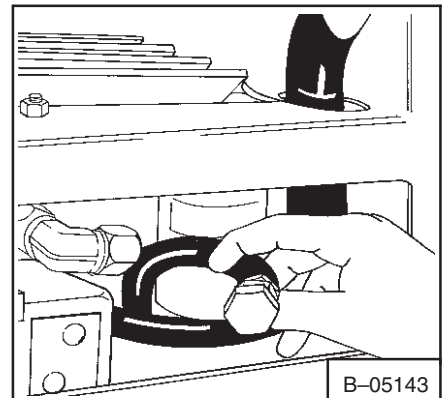

Fig. 1-36 Hose Plug
- (b) Put plugs in the hose and the oil cooler (Fig. 1-36).